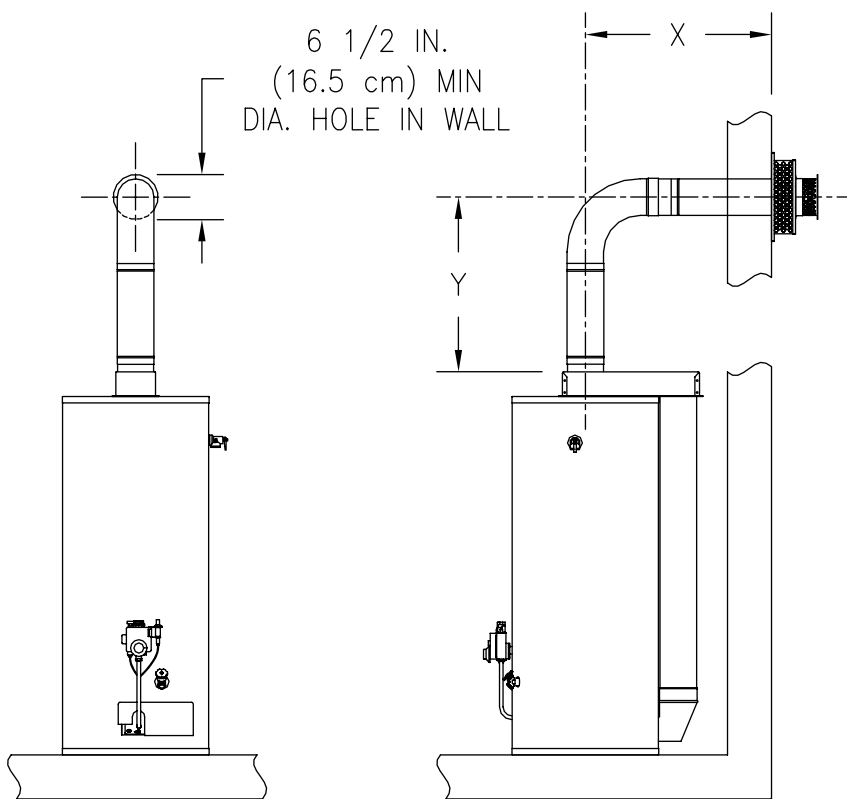

Figure 3
1. Measure the vertical height “Y” required in your installation. (See Figure 3). Reference the appropriate Table A to determine number of vent-air intake kits required in your installation.
2. Measure the horizontal length “X” required in your installation (See Figure 3). Reference Table A to determine number of vent-air intake kits required in your installation.